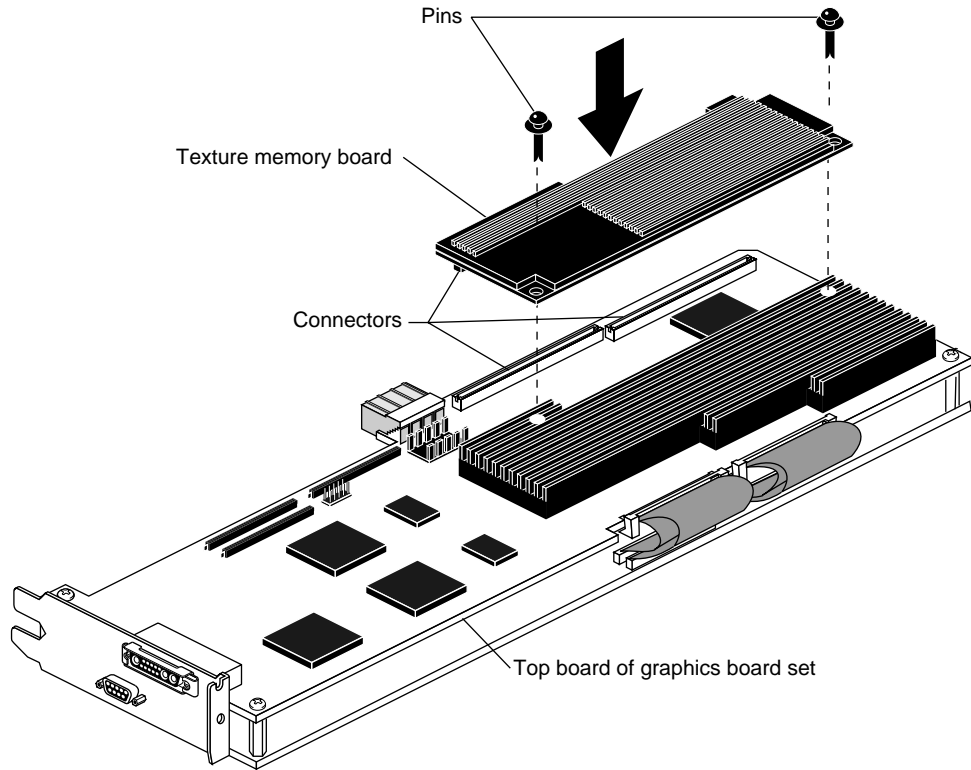

Figure 5-28 Installing the Texture Memory Board
- Align the connectors on the underside of the texture memory board with the connectors on the top graphics board. See Figure 5-28.